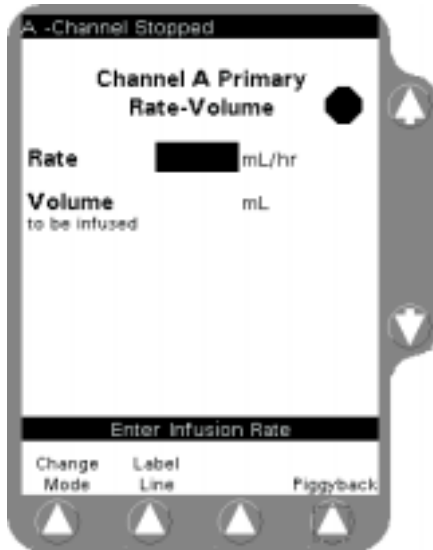

Figure 3-14 Rate-Volume Programming Screen
2. Program the desired flow rate (in mL/hr) using the keypad (Figure 3-14).
The display then changes to the Primary Rate-Volume programming screen and the Rate field is highlighted (Figure 3-14).